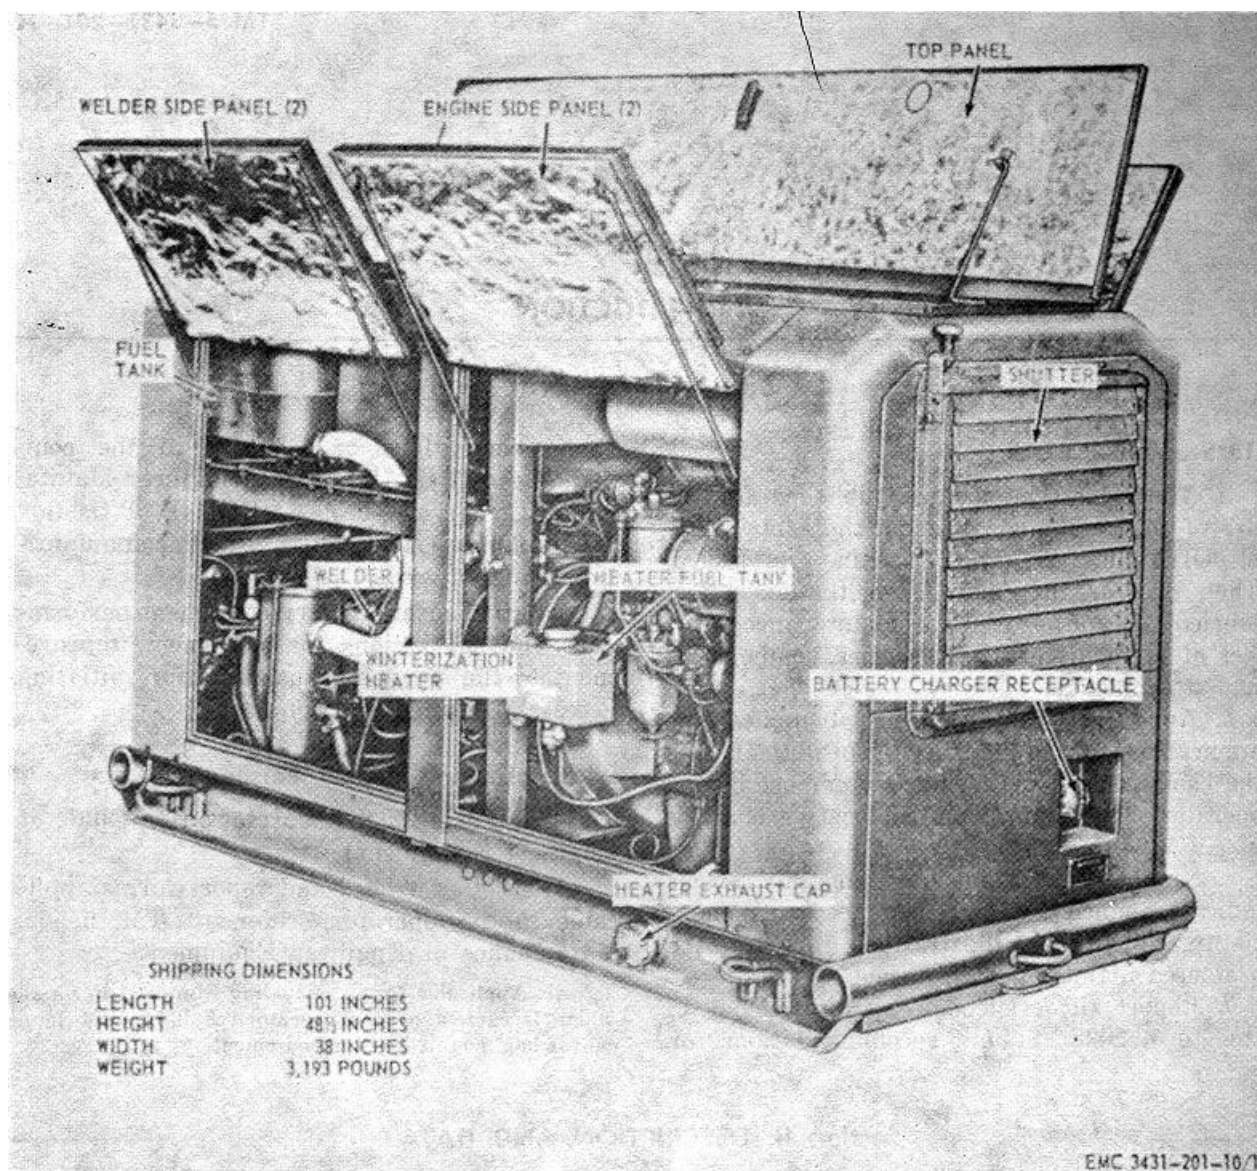

Figure 1. Welding machine, right front, three-quarter view, with shipping dimensions.
a. *General.* The Libby Welding Company Inc., Welding Machine (figs. 1 and 2), Model ODW-300, is a self-contained, skid-mounted, enclosed unit, and is completely winterized. The welding machine is equipped with the necessary controls, instruments, and accessories for operation. All accessories of the welding machine are readily accessible through the hinged panels. The unit is equipped with a towing eye in the front for towing and a lifting eye on top for lifting the unit. The unit can also be used as a 3-kilowatt auxiliary generator.
b. *Engine.* The diesel engine (fig. 1) is a 2-cylinder, in line, 2-cycle, 56-horsepower, liquid-cooled, full-diesel engine. The engine has full-pressure lubrication and is designed to operate at 1,400 revolutions per minute under load. The direction of engine rotation is counterclockwise when viewed from the flywheel end of the engine.